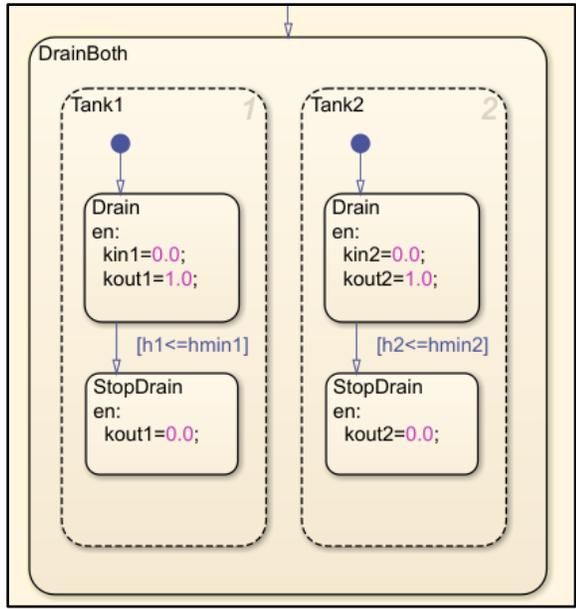

Figure 28. Draining of both tanks.
e) Modify the names, command lines and conditions to process the draining of both tanks. (see Figure 28).